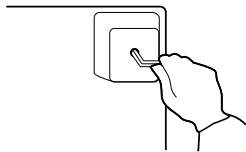

Fig. 2
- tighten the feet firmly. **Fig. 2**